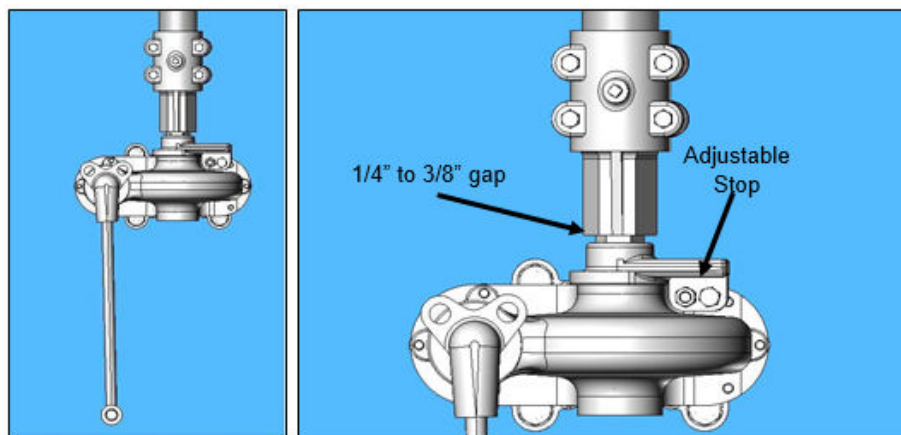
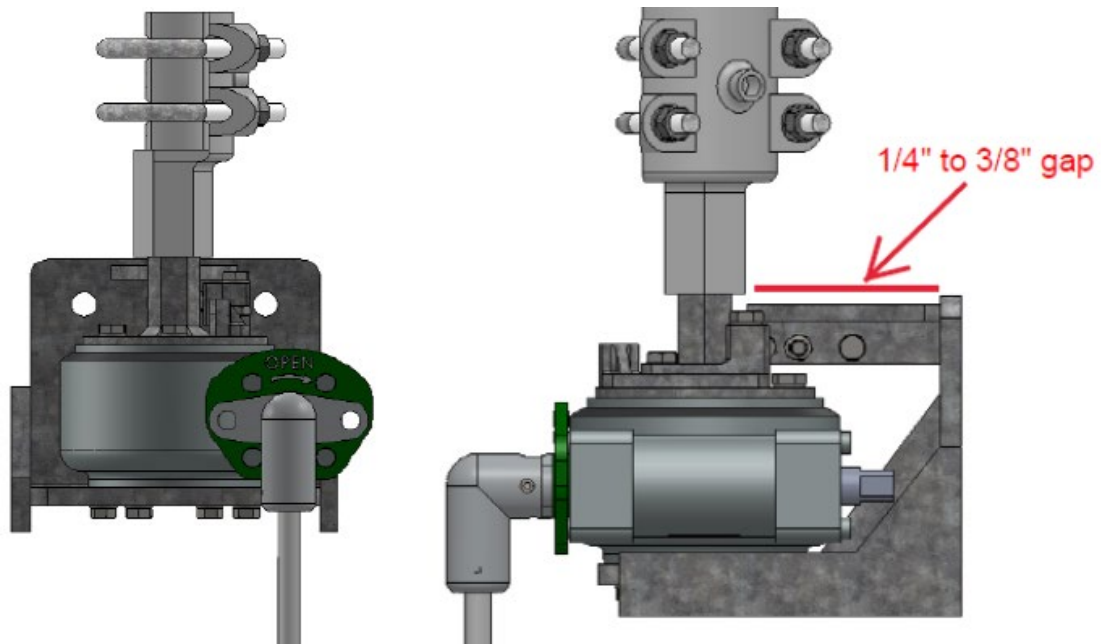

Figure 16: Type HOGO (High Output Geared Operator) Front View
Figure 17: Type SEGO (Safety Enhanced Gear Operator)
- 5.7. **CAUTION:** The pipe collar (above the vertical bearing support) must support the entire weight of the vertical operating pipe. **Do not allow the pipe to rest on the switch operating device.** Refer to **Figure 16** & **Figure 17**.
- 6.2.1.2. When the switch is properly adjusted the operator handle should hang vertically and free in both the open and closed positions to permit the use of a customer supplied padlock. Refer to **Figure 16**